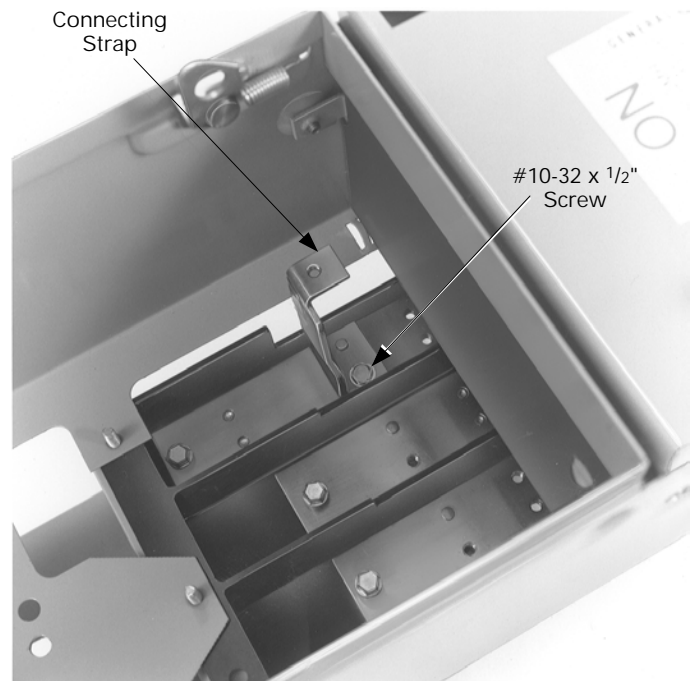

Figure 3. Installing the connecting straps.
3. **Install the straps.** Install the connecting straps with the #10-32 x 1/2" mounting screws provided, as shown in Figure 3. Tighten the screws to 27–32 in-lb.